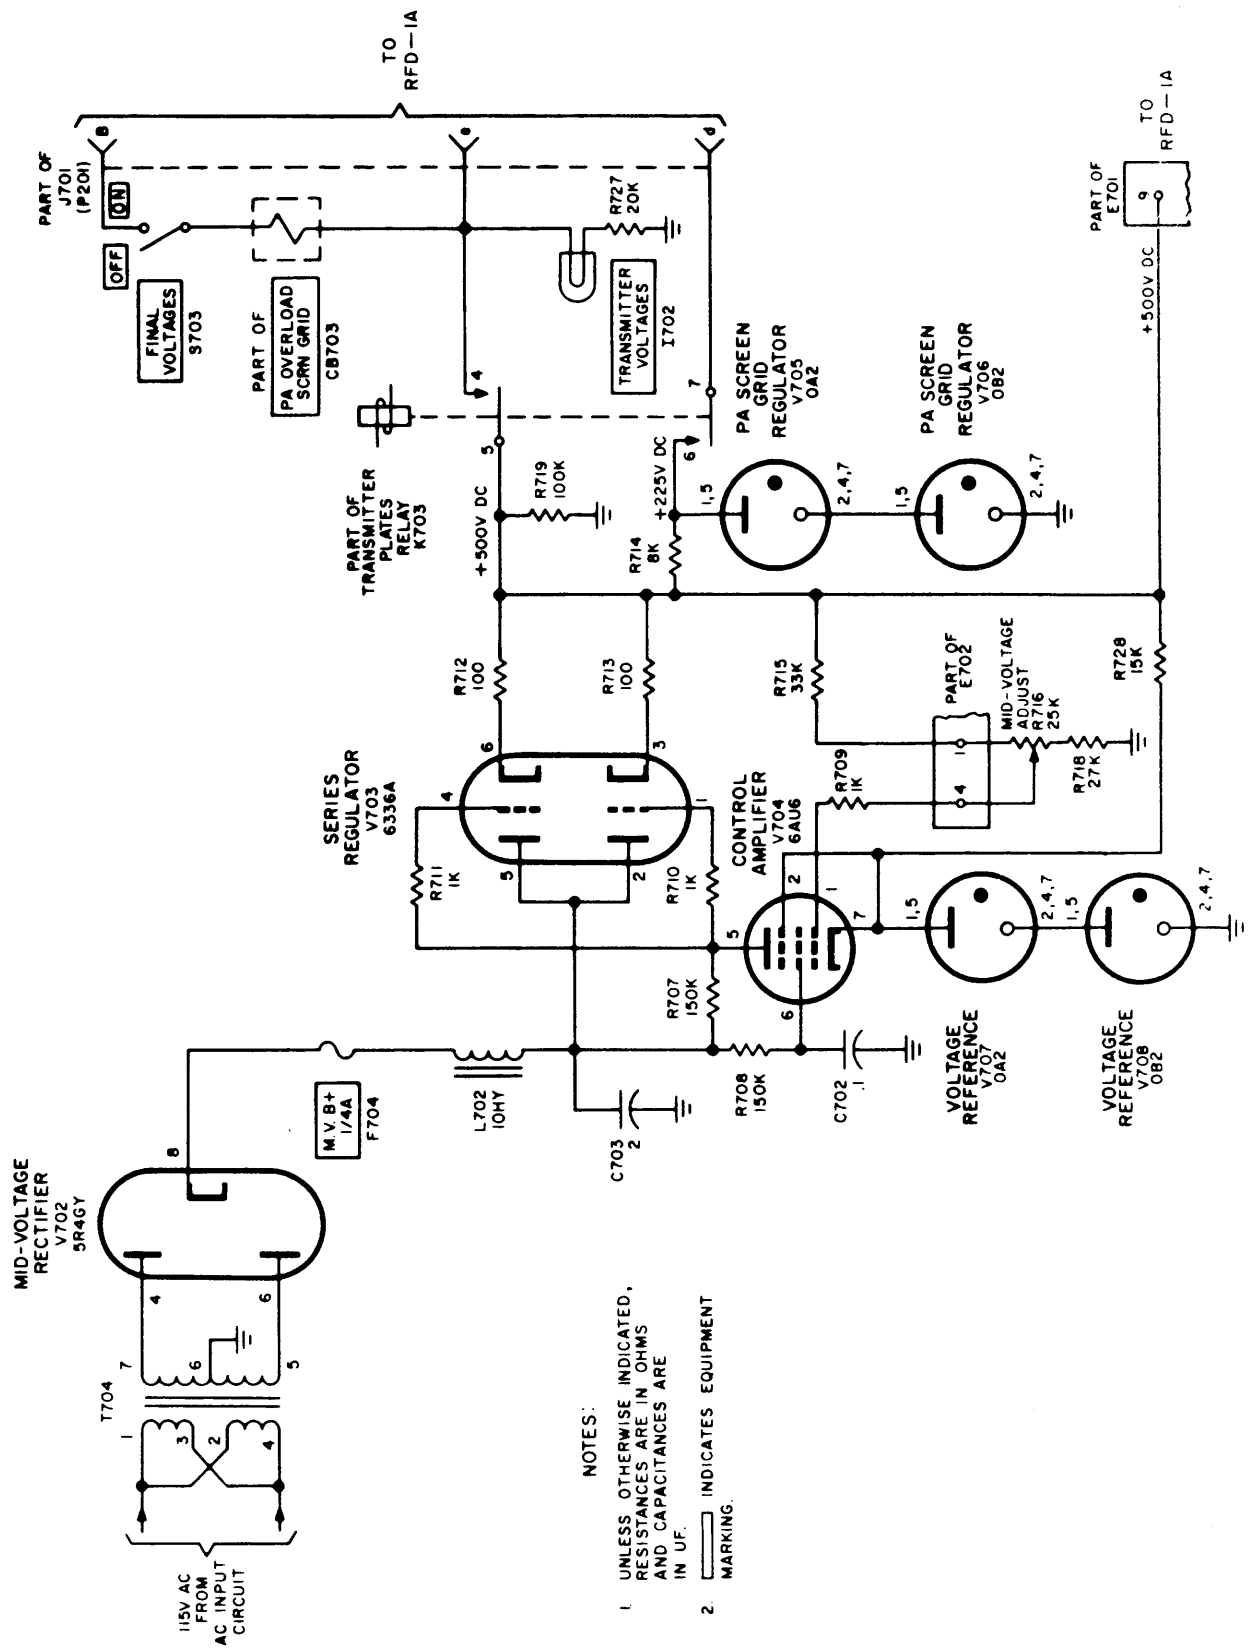

Figure 4-8. Simplified Schematic Diagram, Mid-Voltage Power Supply Section, PS-4A
(4) With relay K702 energized, contacts 7 and 8 apply d-c voltage from the bias power supply to terminal 13 of transmitter plates relay K703. Since terminal 12 of K703 is grounded through PA OVERLOAD CONT GRID circuit breaker CB702 and the interlock circuit (paragraph 4-5a), relay K703 is energized.
(5) Primary a-c power (115 VAC) is routed to the PS-5 High Voltage Power Supply unit from the output of MAIN POWER circuit breaker CB701 and pins C and M of J702. When FINAL VOLTAGES switch S703 is set to ON, the voltage at pin C of J702 is routed to the PS-5 unit through closed contact pairs 8-9 and 10-11 of K703 and pin J of J702. This voltage is returned at pin E of J702, routed to terminal 5 of E701, and lights FINAL VOLTAGES lamp I703. The a-c voltage at pins 5 and 6 of E701 can be used for an external antenna relay, if desired.
c. MID-VOLTAGE POWER SUPPLY (See figure 4-8).
(1) A-c voltage is applied to the primary of transformer T704 from the a-c input section (figure 4-7). The voltage induced in the secondary of T704 (figure 4-8) is applied to the plates of mid-voltage rectifier V702. The rectified output of V702 (500 VDC) is applied to the plates of series regulator V703 through MV B+ 1/4A, fuse F704 and an LC filter network (L702 and C703). The rectified output of V702 is also applied to the plate and screen grid of control amplifier V704.
(2) During normal operation, the 500-volt output of V703 series regulator is taken from the cathodes and applied to pin d of jack J701 through R714 and closed contacts 6 and 7 of K703. The voltage on the output side of R714 is maintained at 225 VDC by PA